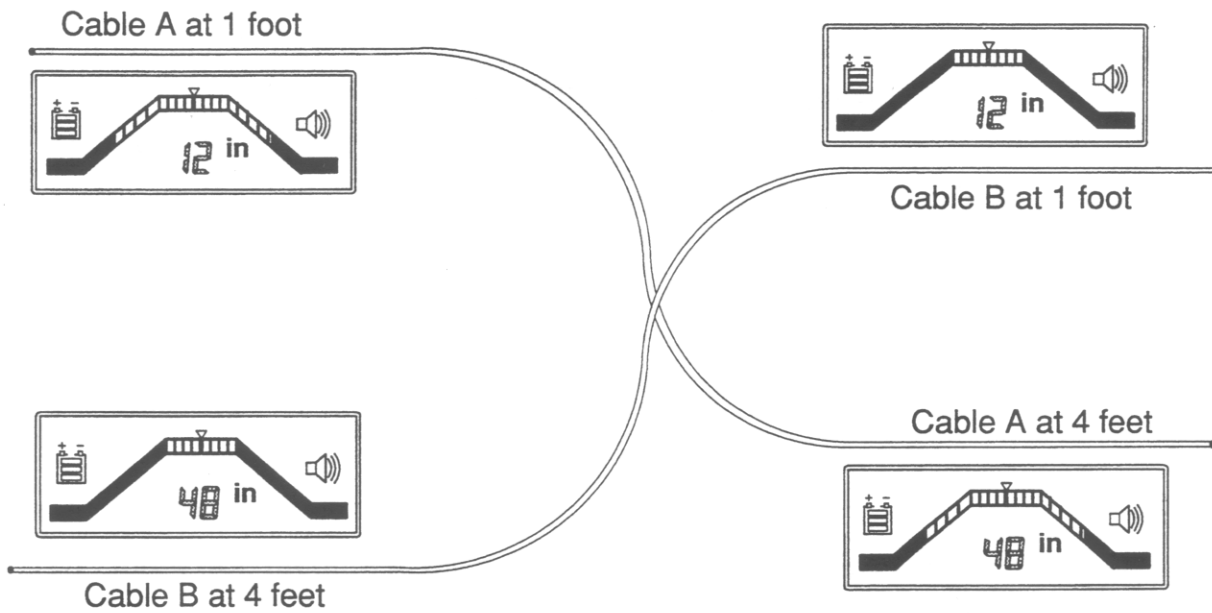

Fig. 2-7 Depth-Current Displays Over Crossing Cables
1.14 When two cables with the same tone cross you can use the Depth-Current measurement to identify the target cable. Refer to Fig. 2-7. When cables 'A' and 'B' cross, they change depth. This is not unusual and is often the case. Since the Receiver's  (peak) mode signal response varies with depth, it may be difficult to identify the cables using signal level alone. However, the signal current in the cables will not change, and you can compare the bar graph reading using  (depth) to identify the cables.